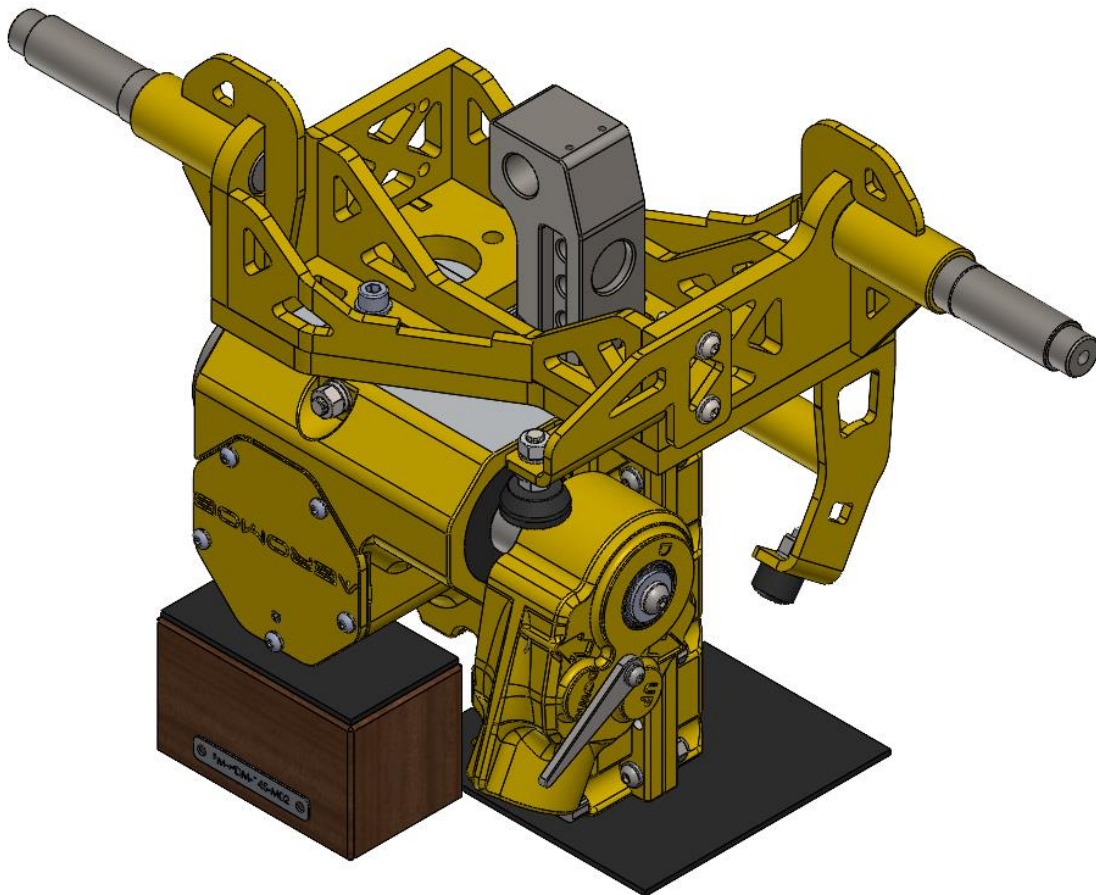

Figure 14
- hh. With the block upside down, insert the support tool FM-HDM-145-M02 so that the block does not tip over. Fit the assembled base according to MM AM-HDM-145-K01/2-2 and place the screw (1-4/15) with the washer belonging to the assembly, according to Figure 14.